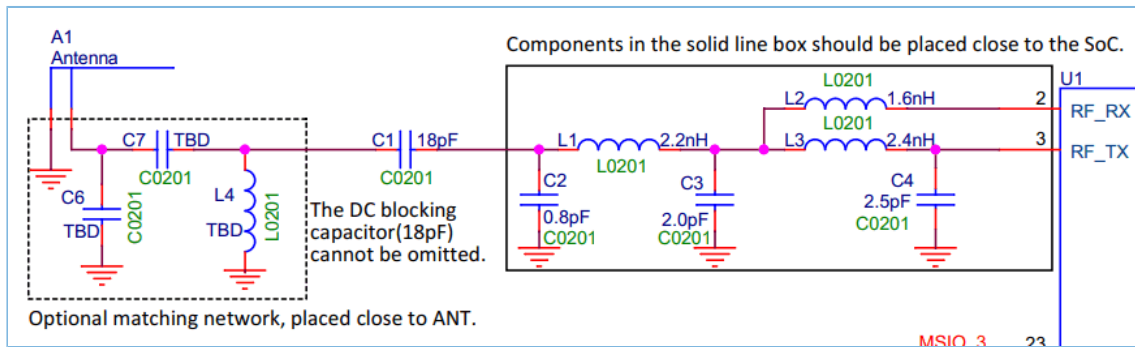

Figure 3-12 RF scheme
- Placing RF matching components on the same line with RF\_TX is of high priority, as shown in the blue box in Figure 3-18. Make sure the components are placed by strictly following the RF scheme in Figure 3-12.